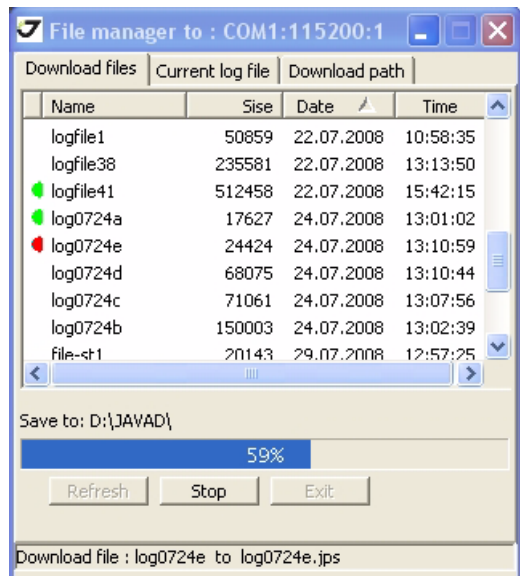

Figure 5-4. Download Files – Status Indicators
7. Click the *Download* button. During the download, status indicators display next to each file (Figure 5-4 on page 58).